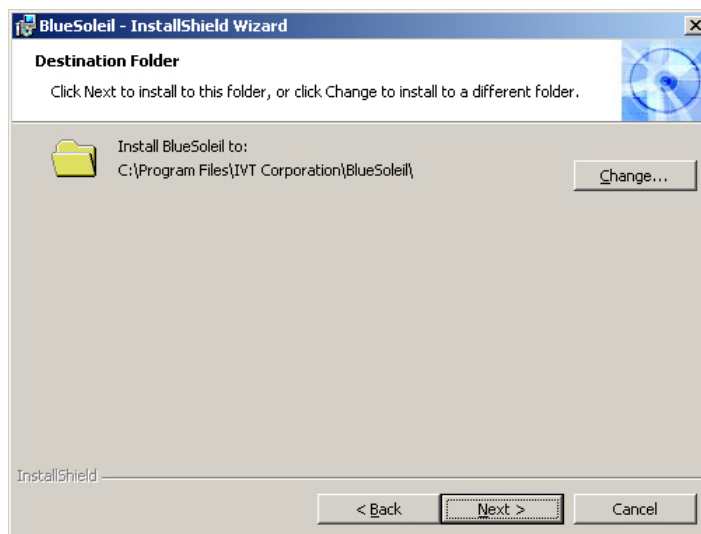

Figure 7-33: Bluetooth Driver Destination Folder
Step 7: The **Destination Folder** screen in **Figure 7-33** appears next. Confirm the destination folder to install the Bluetooth driver.